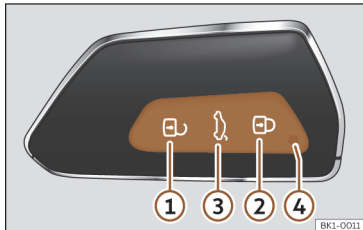

Fig. 62 Vehicle key
When a button is pressed briefly on the vehicle key, the control lamp ④ >>> Fig. 62 flashes once briefly, but if pressed for a long period of time, it will flash several times, for example, in the convenience opening.